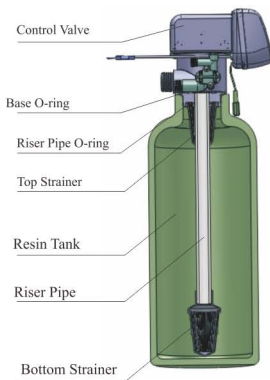

Figure1-1
- ①The filter or softener should be located close to drain.
- ②Ensure the unit is installed in enough space for operating and maintenance.
- ③Brine tank needs to be close to softener.
- ④The unit should be kept away the heater, and not be exposed outdoor. Sunshine or rain will cause the system damage.
- ⑤Avoid installing the system in circumstance of acid/alkaline, magnetic or strong vibration, because above factors will cause the system disorder.
- ⑥Do not install the filter or softener, drain pipeline or overflow pipe in circumstance where temperature may drop below 5°C, or above 50°C.
- ⑦Install the system in the place where with the minimum loss in case of water leakage.
①Install control valve
- a. As the Figure 1-1 shows, select the riser pipe with 26.7mm OD, glue the riser pipe to the bottom strainer and put it into the mineral tank, cut off the exceeding pipe out of tank top opening and make external rounding.